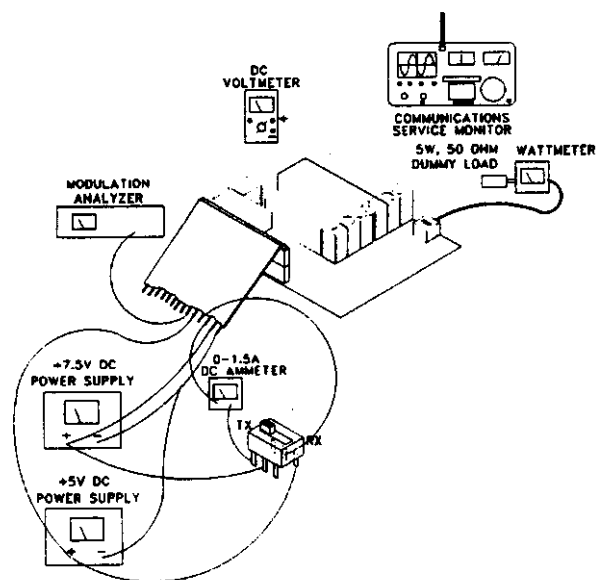

Figure 6-1 TRANSMITTER TEST SETUP
1. Connect the test setup shown in Figure 6-1. Set the power supply for +7.5V DC. See Figure 2-1 for interface cable.
1. Connect the test setup shown in Figure 6-1. A DC ammeter capable of measuring up to 1.5A should be installed in the supply line.
1. Connect the test setup shown in Figure 6-1.